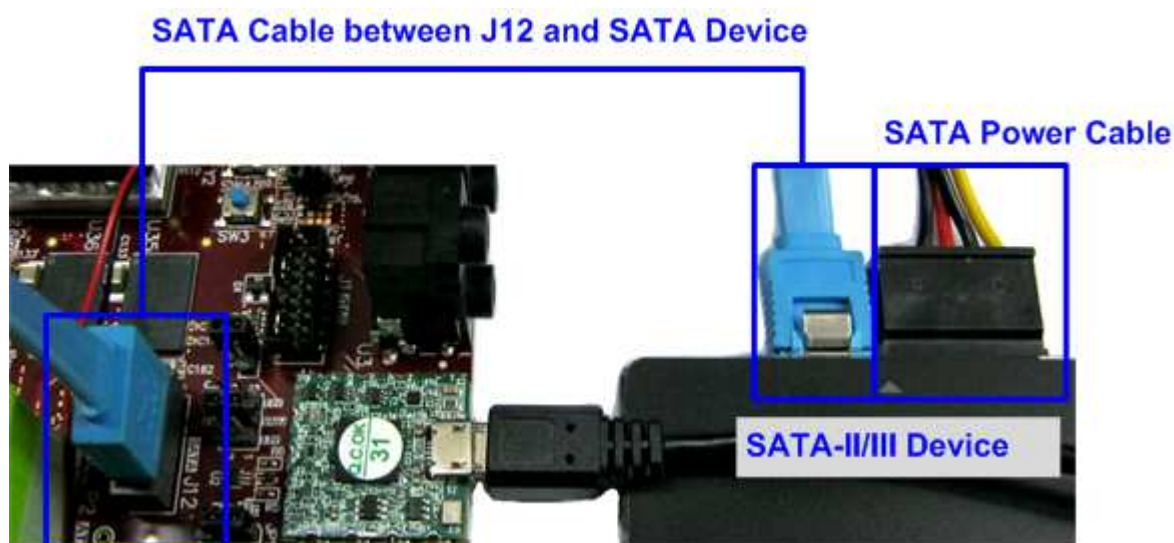

Figure 2-8 SATA-II/III device connection for Zynq Mini ITX
- The connections are shown in Figure 2-8.